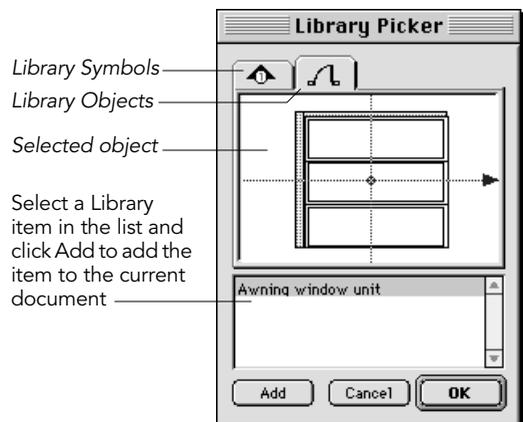

Fig. 92 Adding Library items to a document
4. Use the Library Picker to add items one at a time to the current document (figure 92).